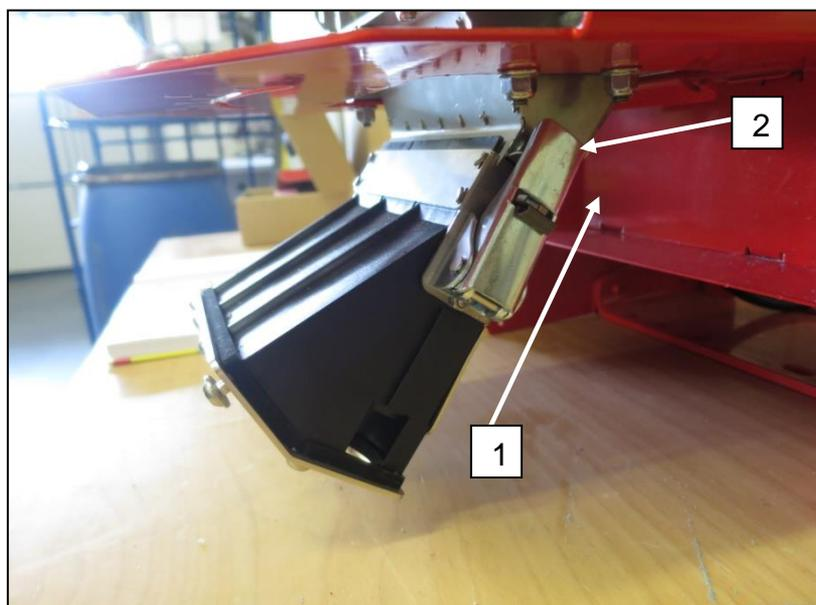

Fig.: 150
- Install the transition pieces from the bottom in the direction shown by the arrow 1 (Fig.: 150) onto the air channel and fasten them on both sides with one quick-release fastener 2 each.